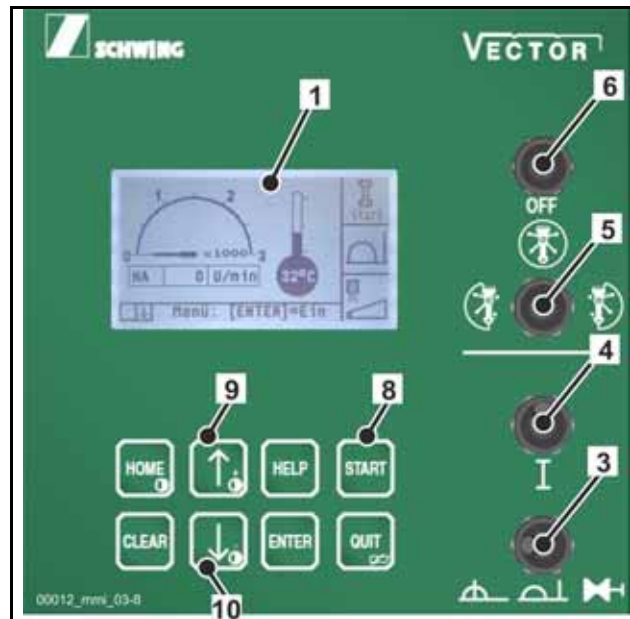

Fig. 556
- Then press the "START" button (8) (**Fig. 556**) to acknowledge the action and follow the menu prompts.